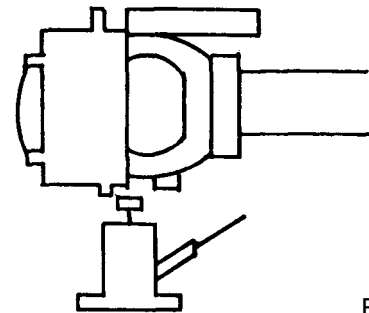
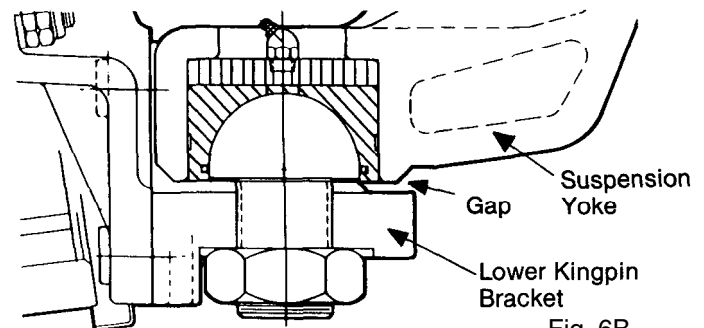

Fig. 6A
Fig. 6B
3. Loosen the upper kingpin adjusting screw jam nut. Back off the adjusting screw approximately four (4) turns.
4. Place a small bottle jack under the wheel end (See fig. 6A). Raise the wheel end until the upward movement stops. By feeling the gap between the lower kingpin bracket and the suspension yoke (See fig. 6B), you will be able to determine when upward movement stops. You have now seated the upper kingpin.